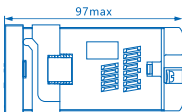

Figure 1 Outline Size
3.1 Outline and installation size: see Figure 1~ Figure 2, unit: mm.